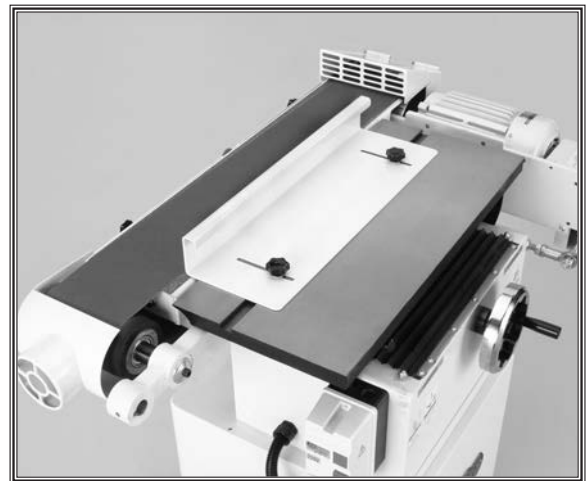

Figure 28. Installed fence.
2. Thread the star knobs and 5/16" flat washers into the threaded table holes (**Figure 28**) and tighten.